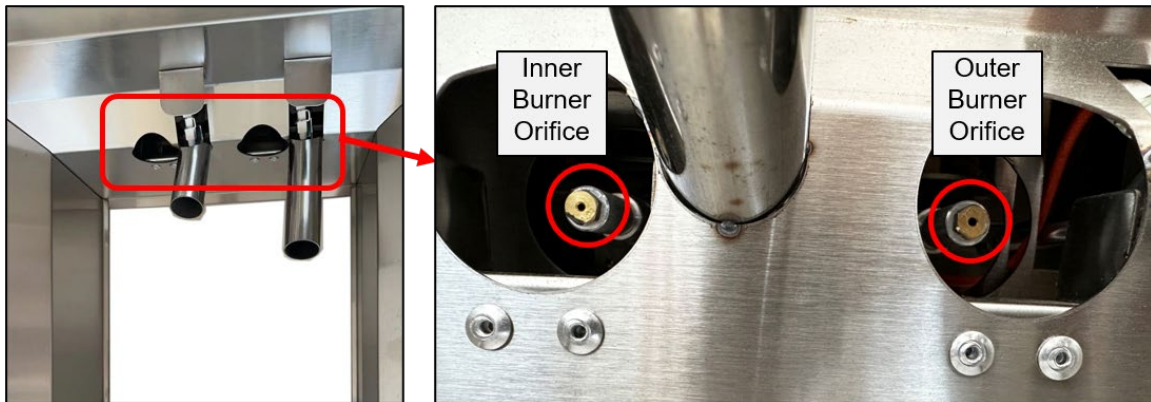

Figure 25 Change Orifice
7. Use a shallow 7mm socket and handle to reach into the burner opening and carefully remove the brass orifice screwed into the end of the valve stem (Figure 25)